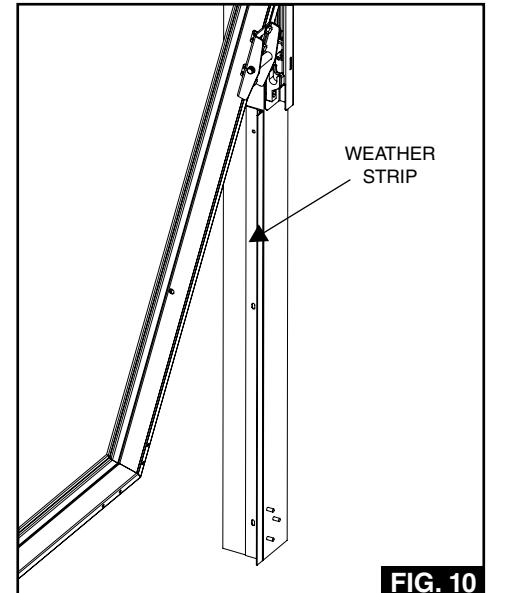

FIG. 10
**14.** Fix black weather strips to side jambs using nails provided (See Fig 10). Position the weather strips so that they overlap the rear edge of the door. Fit below the security block and down to floor level. Any excess length can be cut off from the bottom.
4. Remove the lower weather strips (See Fig 10).